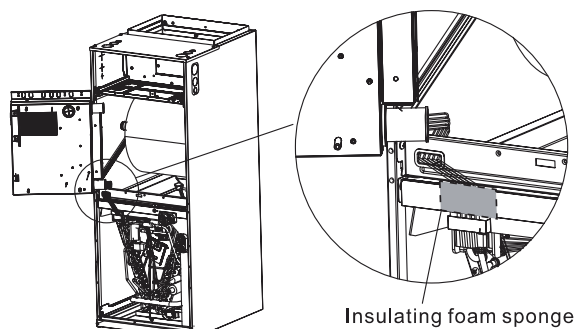
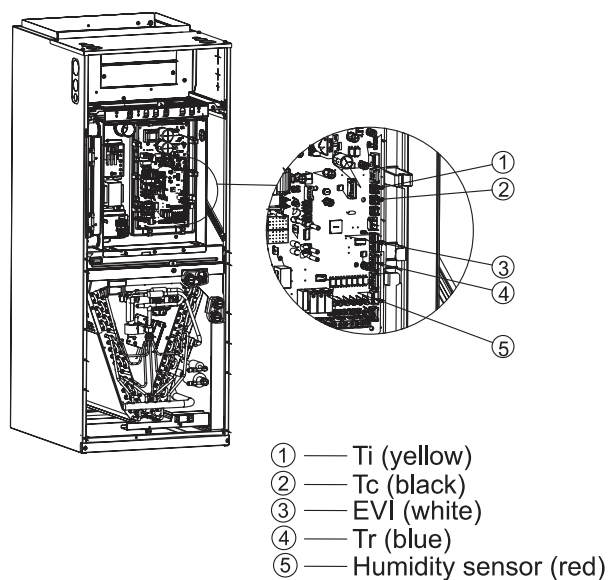

Fig. 11
Fig. 12
(10) Rotate to open the electrical box, according to Fig. 11, pass the sensor harness through the wire hole of the middle cross beam, and then enter the inside of the electrical box through the rubber ring of the electrical box. After the wiring is completed, thermal insulation sponge should be adhered the surface of the wire harness as shown in Fig.12.